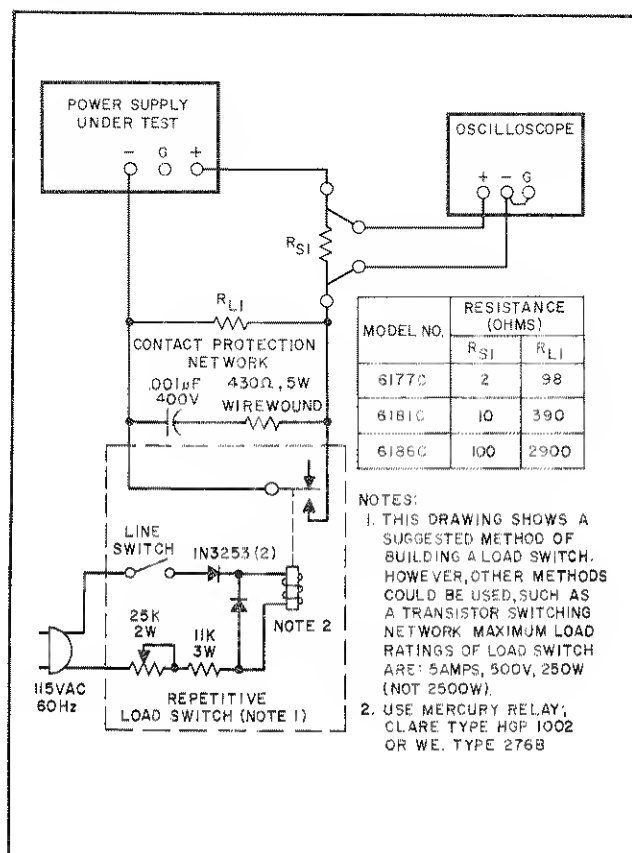

Figure 5-5. Load Transient Recovery Time, Test Setup
5-27 A mercury-wetted relay, connected in the load switching circuit of Figure 5-5, should be used for loading and unloading the supply. When this load switch is connected to a 60Hz ac input, the mercury-wetted relay will open and close 60 times per second. Adjustment of the 25K control permits adjustment of the duty cycle of the load current switching and reduction in jitter of the oscilloscope display.
- Connect test setup shown in Figure 5-5.